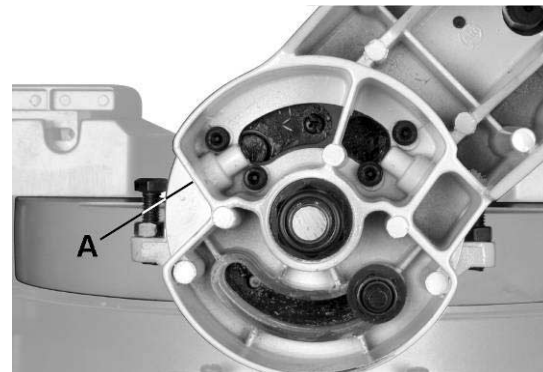

Figure 14
- To adjust, turn the *setscrew* (A, Fig. 14) in or out with a 6mm hex wrench until the blade is 33.9° to the table.